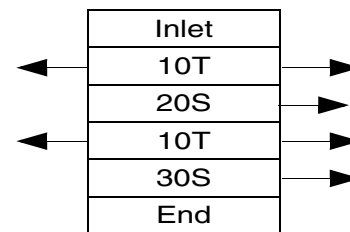

FIG. 15
- a. Before disassembling any divider valve, make a sketch noting the arrangement of Valve Sections. For example: INLET 10T - 20S - 10T - 30S - END (FIG. 15). Also remove end plugs only and try to move each piston back and forth without removing the piston from the valve section.